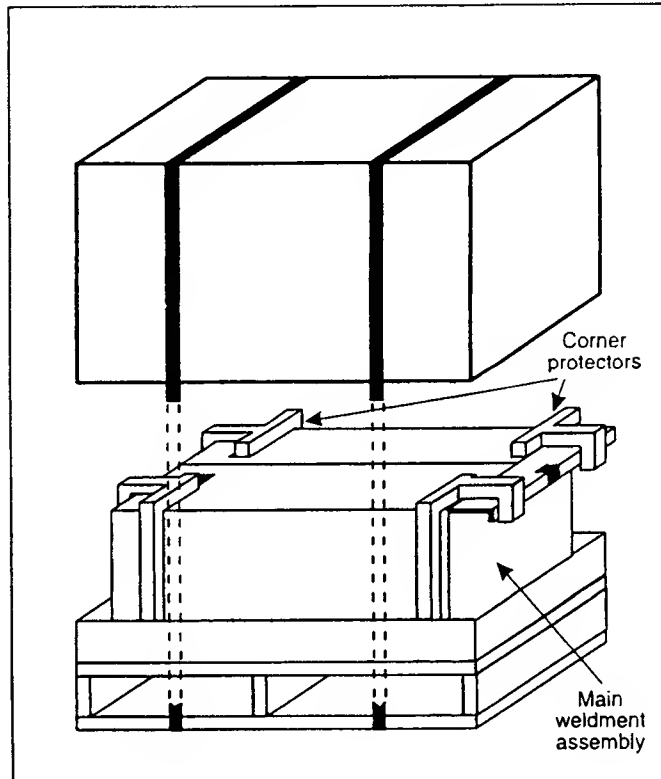

Figure 2-7. Remove box.
- a. Cut straps (2) and remove the outside plastic film. Remove the box as it is shown in Figure 2-7.
- b. Push the foam corner protectors to the side and open the doors in the Main Weldment assembly (Figure 2-7).
- g. Remove the foam corner protectors (Figure 2-7). Pull up the corners of the Weldment assembly to ease the removal of the protectors.